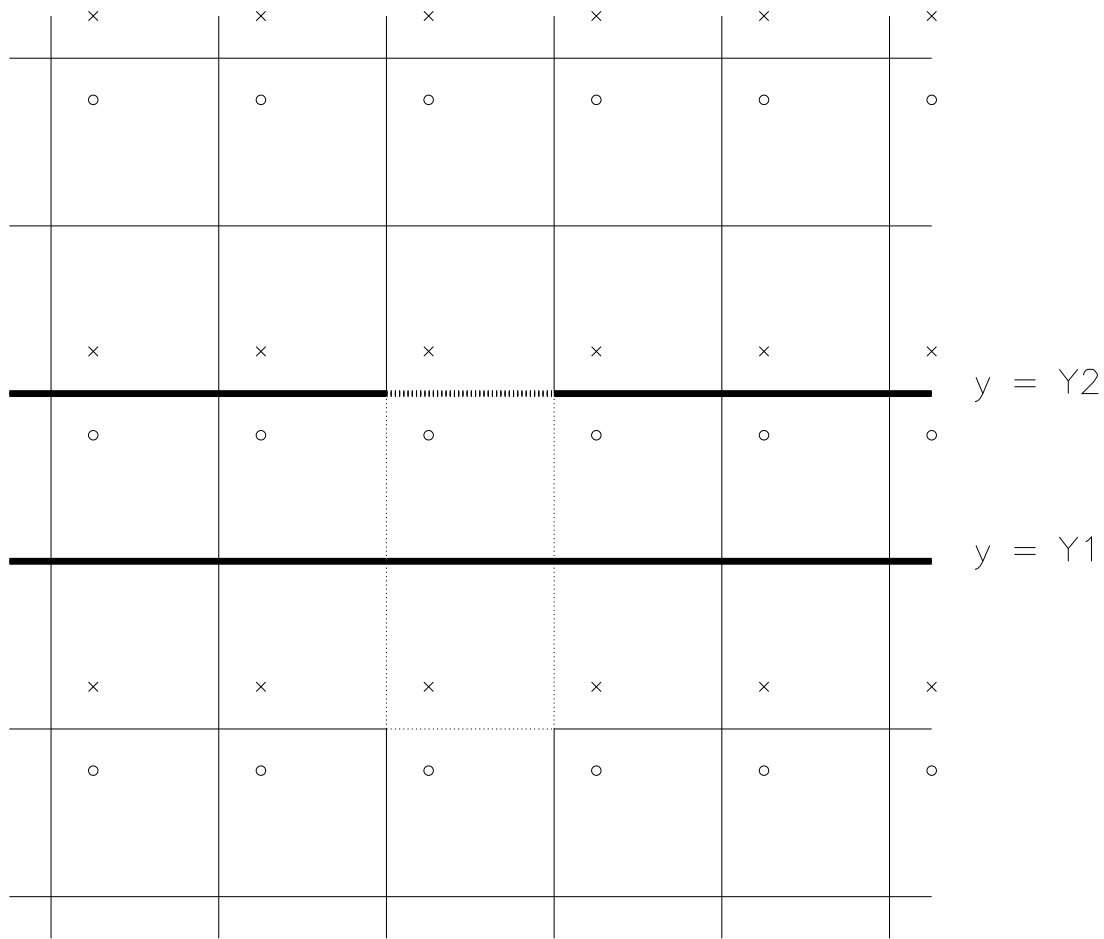

Figure 22. Periodic wire array between grounded parallel planes
and consider the doubly periodic array with periods (s_x, s_y) consisting of replicas of a basic cell (enclosed by the broken line in Figure 22 on page 98) containing $2n$ wires:
From the symmetry of the positive and negative charges with respect to each of the planes $y = Y_1$ and $y = Y_2$ (Figure 22) it follows that these planes are at zero potential, and hence that the field of the doubly periodic array is the same as that of the original array. Using (5) and (10) respectively, we obtain the following expressions for the complex potential: